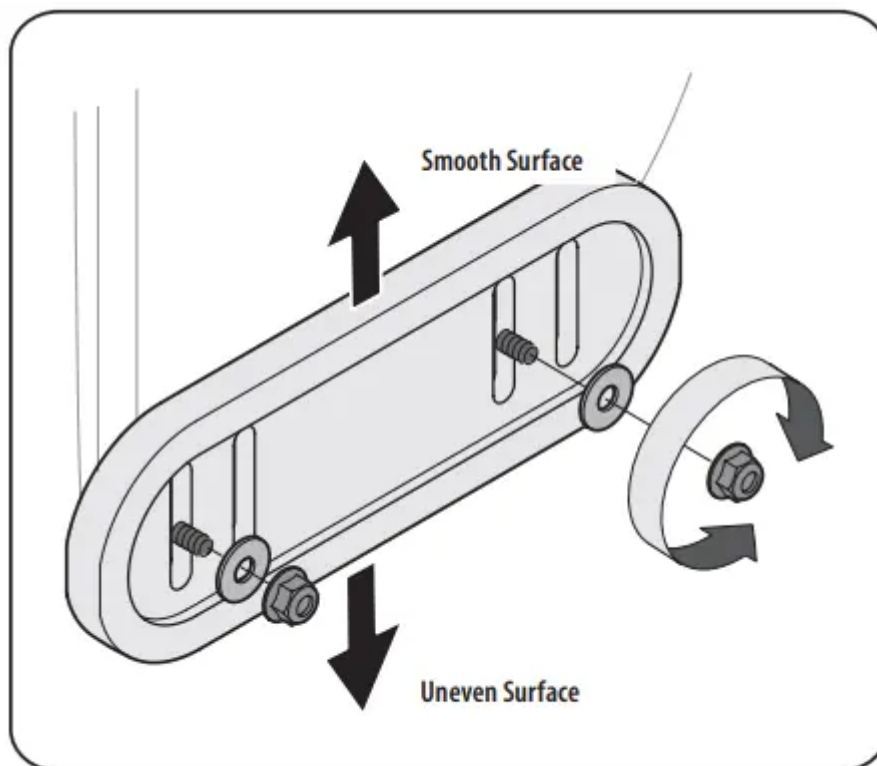

Figure 45
For close snow removal on a smooth surface, raise skid shoes higher on the auger housing. Refer to Figure 45.
1. Loosen the four hex nuts (two on each side), flat washers, and carriage bolts. Move skid shoes to desired position. See Figure 45.
NOTE: The skid shoes on your unit may look slightly different (and have different hardware) than ones shown in Figure 45.